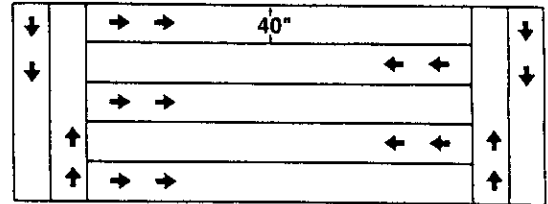

FIGURE 8
- For easiest application, first apply material across both ends of the area. Two or three passes on each end are sufficient. Then apply material back and forth as shown. Use the end areas for turning around, shutting off the spreader as you enter the end areas and turning the spreader on again as you leave the end areas for your next pass. See figure 8.